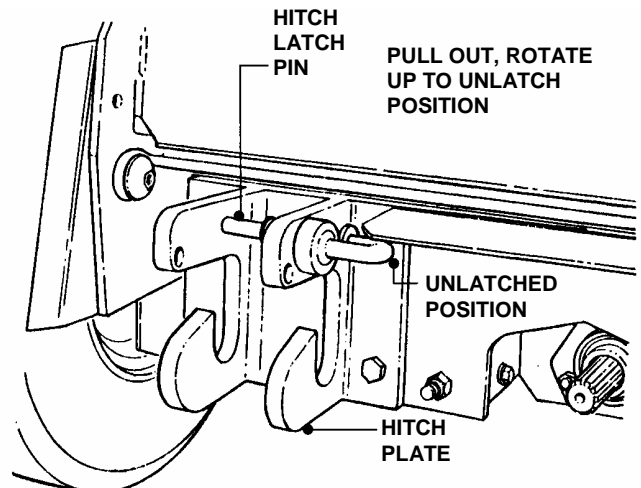

FIGURE 7
- STEP 10:** Run each (2) jam nut up against the swivels on the timing rod and the hanger rod. The deck linkage will not float when the nuts are in this position. This will allow the use of the electric actuator on the deck to lift and attach the deck frame to the power unit.
- STEP 11:** Located on the hitch plates at the front of the Power Unit, rotate the Spring-Loaded Hitch Latch Pins to the unlatched position. See Figure 7.
STEP 13: Disengage Parking Brake. Carefully move Power Unit close to Mower Deck to connect Power Unit and Deck Wiring Harness. Turn engine "OFF". Plug in Deck Lift Wiring Harness from Power Unit into Deck Lift Wiring Harness. Turn Switch key to "ON" position (Do Not start engine!). Hold Deck Lift Switch in the "DOWN" position until the lift arm pins are in line with the hitch plates. See Figures 7 & 8.